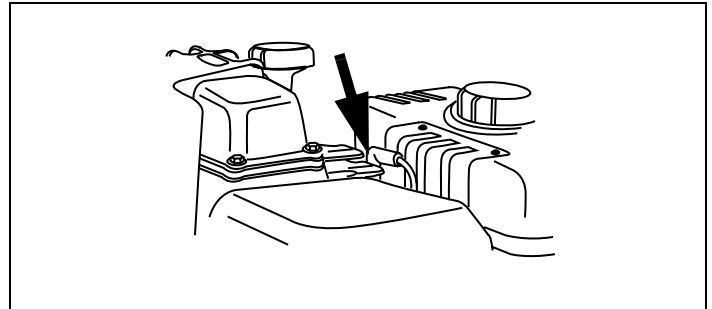

Figure 36. Typical Spark Plug Connection
10. Carefully disconnect spark plug wire from grounding post, if provided. See Figure 36.